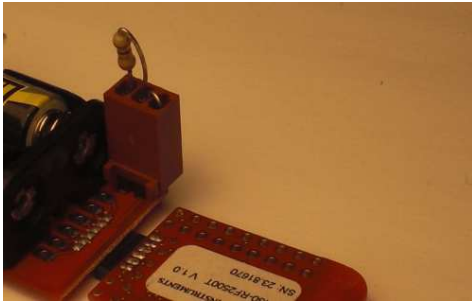

Fig. 2. Use the 1Ω jumper to switch on the target board...
- Switch the target board on using the jumper with the 1Ω resistor (Fig. 2).